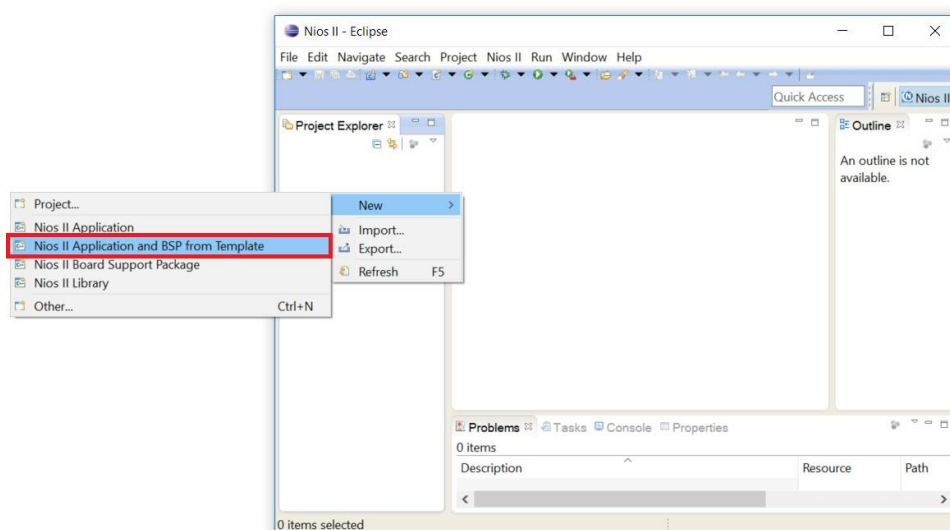

Figure 18: Creating the Initial Project in the Eclipse SBT
- Right click in the area called Project Explorer and select **New** → **Nios II Application and BSP from Template** as shown in Figure 18 above.